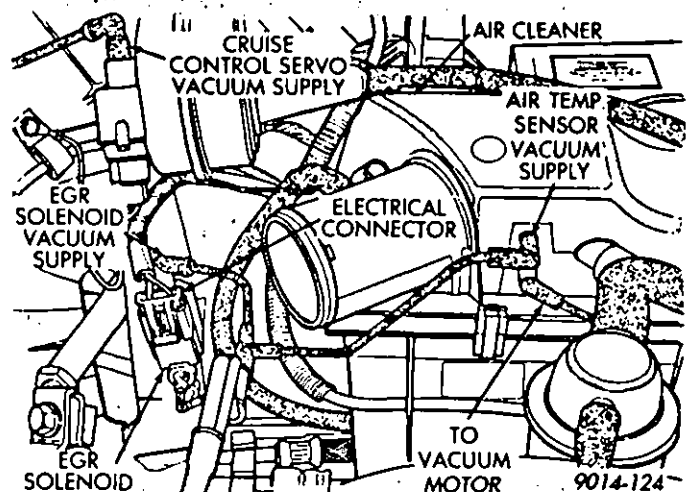
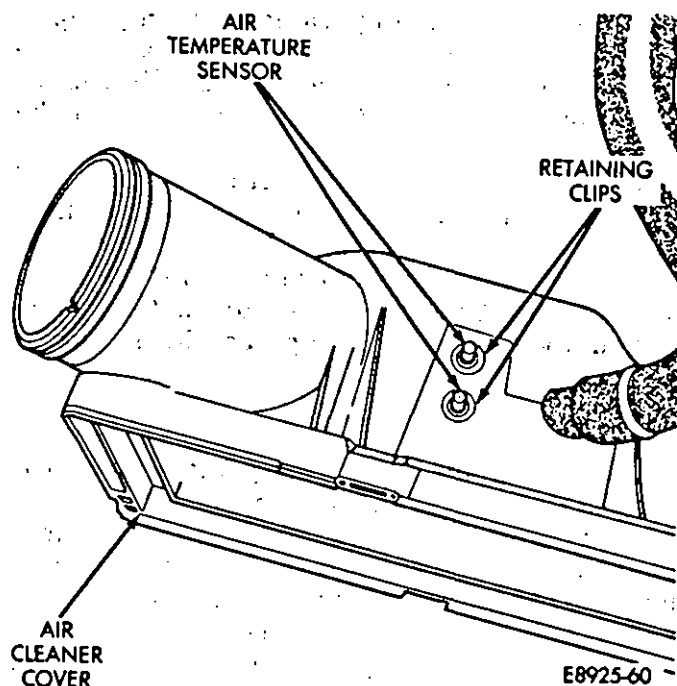

Fig. 3—Air Temperature Sensor Vacuum Tube Connections
Fig. 4—Air Temperature Sensor Removal/Installation
- (1) Mark air temperature sensor vacuum tubes for installation reference (Fig. 3). Remove vacuum tubes from air temperature sensor.
- (2) Remove the air cleaner cover.
- (3) Remove air temperature sensor retaining clips (Fig. 4). Remove sensor.